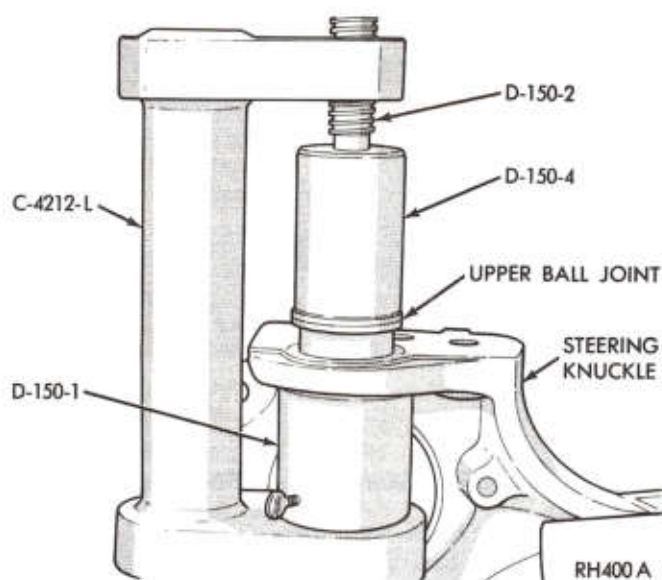

Fig. 10—Installing Upper Ball Joint
(2) Using Tool C-4212-L and Adapter Set C-4288 positioned as shown in Figure 10, carefully press upper ball joint into position. Install new boots on both ball joints. Remove steering knuckle from vise.
(3) Screw new sleeve into upper ball joint yoke on axle housing leaving about two threads showing at the top.
(4) Position steering knuckle on axle housing yoke and install **New** lower ball joint nut. Tighten to 80 ft. lbs. (108 N·m).
(5) Using Tool C-4169 and a torque wrench, tighten sleeve in upper ball joint yoke to 40 ft. lbs. (54 N·m). Install upper ball joint nut and tighten to 100 ft. lbs.